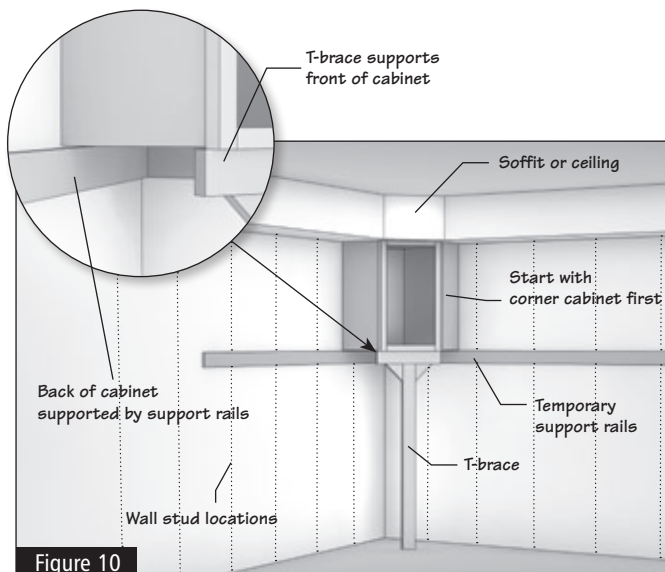

Figure 10
- 3.2** Start with the corner cabinet. With someone else's help, lift it into position on the support rail and use a 2x4 or T-brace at the front to prop the cabinet into place. Keep in mind, blind corner cabinets may need to be pulled out from the corner as shown in your kitchen plan. (Figure 10)